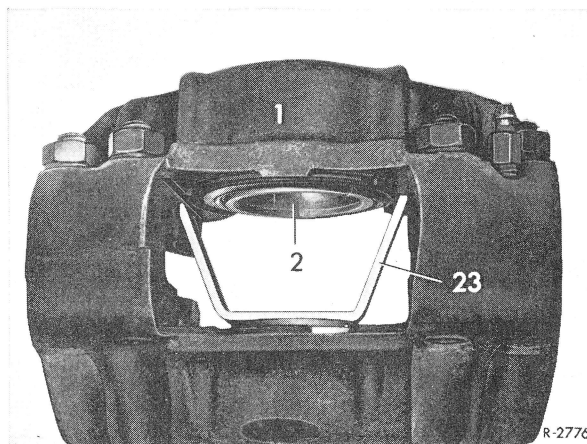

Fig. 4
4 A piston rusted to the caliper bore cannot be forced out with compressed air, since the pressure required to release the piston would have to be very high. Proceed by holding the piston which is still moving with holding fixture (23) in caliper (Fig. 4). On Bendix (Bx)-caliper, remove both heat shields from piston first. Then release stuck piston (2) by means of a master cylinder and force out of bore.